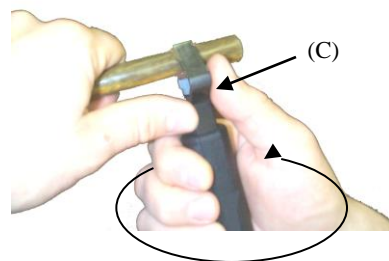

Fig. 4
**Step 4.** (Fig. 4) **For a longitudinal cut**, twist the tool handle 1/4 turn to the right and pull toward the end of cable.
**Note:** Maintain this tool position by placing the thumb on the side of the upper jaw frame (C).